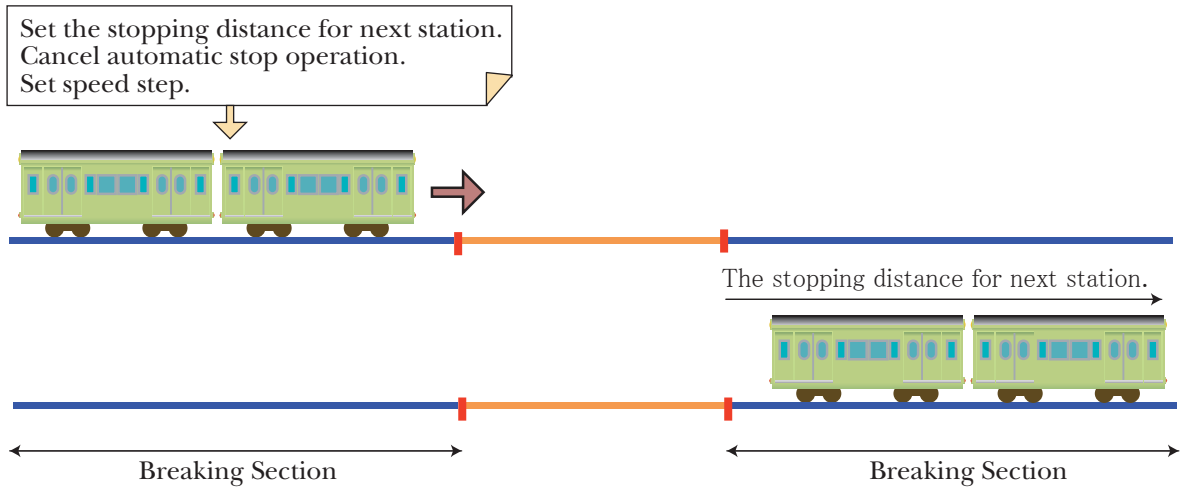

Fig.IX-6 The basic operation of Automatic Driving.
1. As illustrated in Fig IX-6, area around station is made asymmetric DCC section by installing a module in the one side of the station.